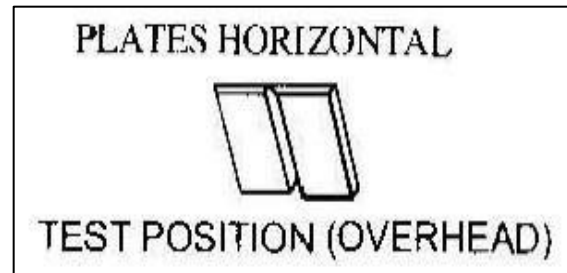

Figure A6.8 Overhead Position
- (4) Overhead Position (figure A6.8) – Plate in a horizontal plane with the weld metal deposited from underneath.